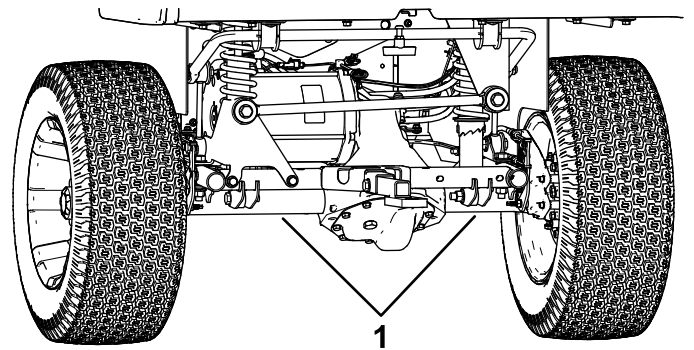

Figure 28
- The lifting point at the rear of the machine is located under the axle tubes (Figure 28).